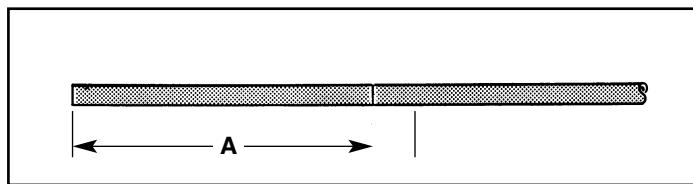

Figure 3
4. For first bend, measure from end of tube and mark at blueprint dimension. (*Figure 3*)